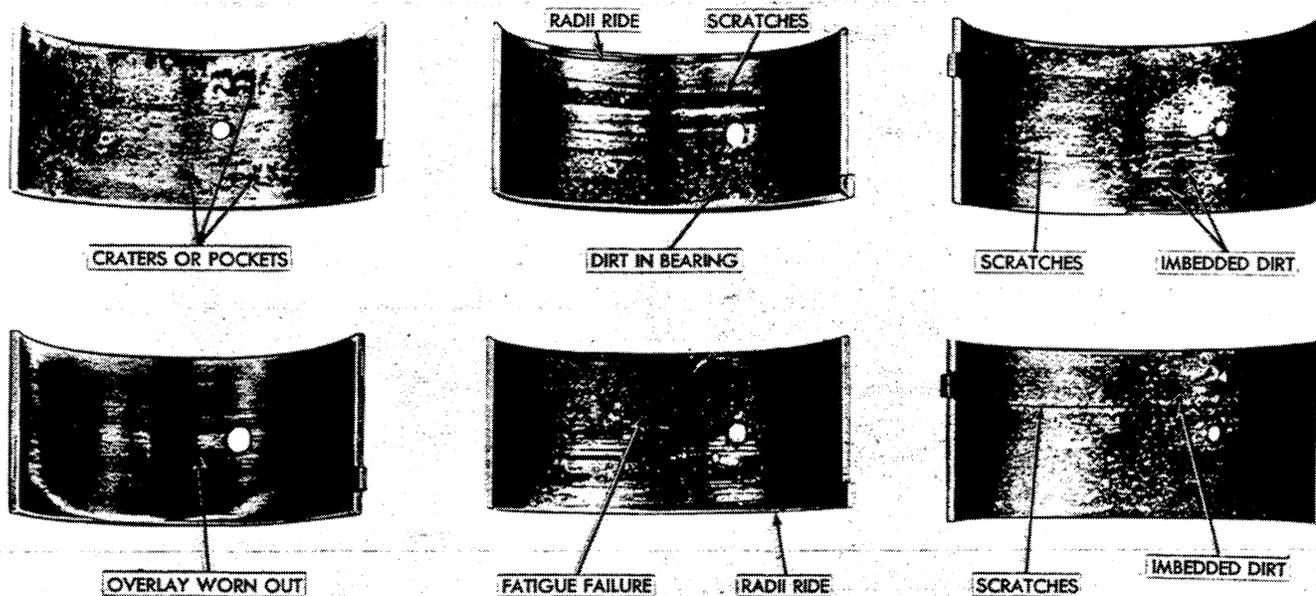

Figure 26
1. Replace bearing inserts that are scored, have the overlay wiped out, show fatigue failure, or that are badly scratched as shown in Figure 26.